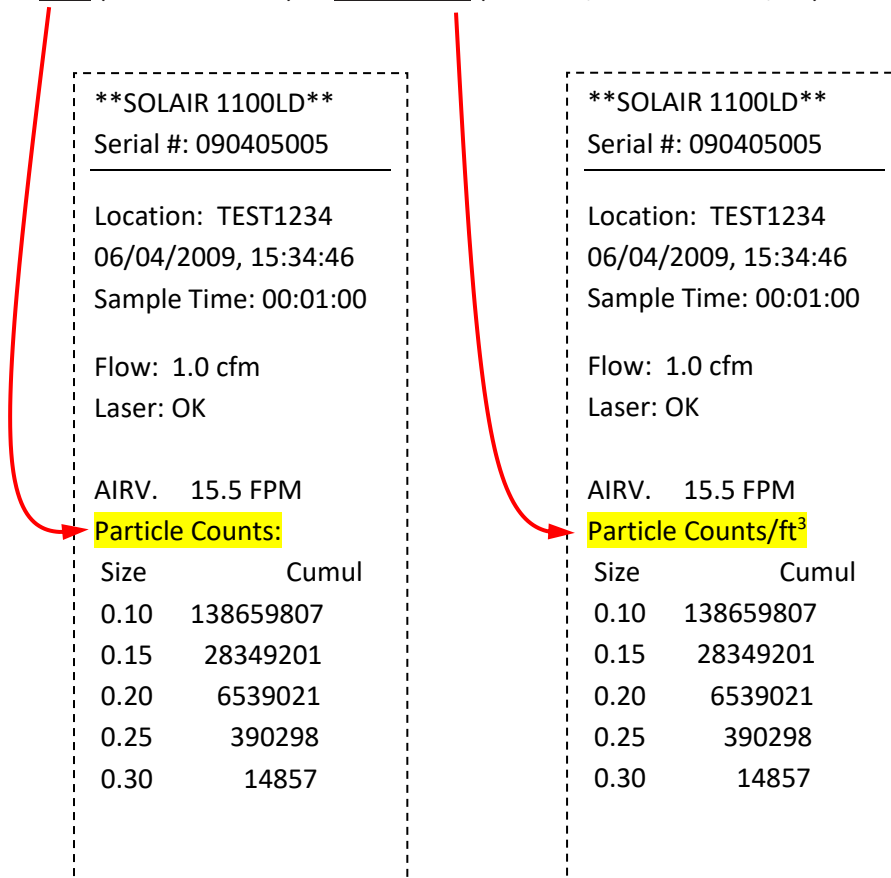

Figure 6-83 Sample Report Formats
- Raw (Particle Counts) or Normalized (Particles/ft³ or Particles/m³). See Figure 6-83.